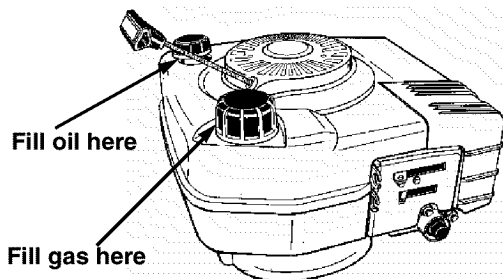

Figure 9
- Fill oil sump and check the oil level following steps below. See Figure 9.
- Clean area around fuel cap. Remove cap. See Figure 9. Use a funnel to prevent spillage.